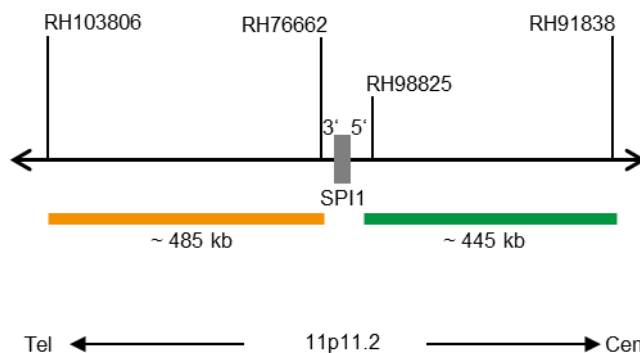

Fig. 1: SPEC SPI1 Probe map (not to scale)
- ZyGreen (excitation 503 nm/emission 528 nm) labeled polynucleotides (~10.0 ng/μl), which target sequences mapping in 11p11.2* (chr11:47,424,117-47,867,019) proximal to the SPI1 breakpoint region (see Fig. 1).
- ZyOrange (excitation 547 nm/emission 572 nm) labeled polynucleotides (~4.5 ng/μl), which target sequences mapping in 11p11.2* (chr11:46,871,411-47,354,083) distal to the SPI1 breakpoint region (see Fig. 1).